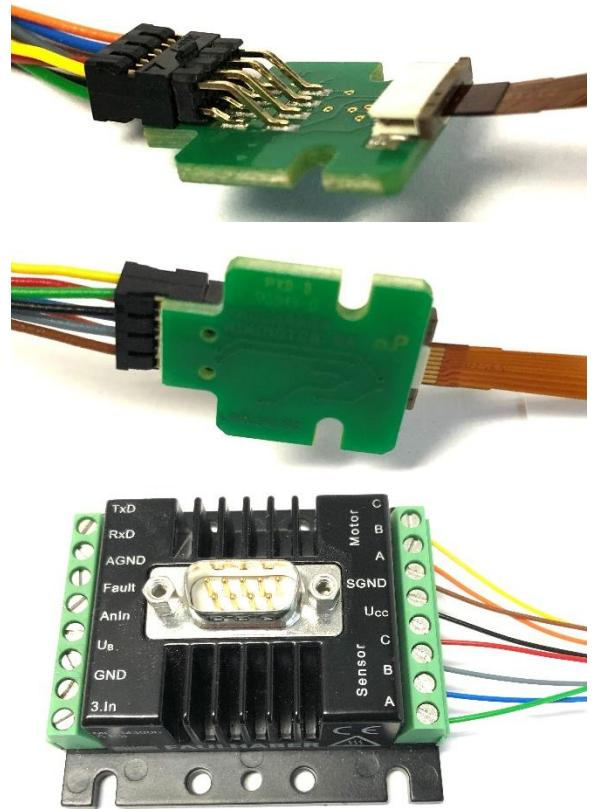

Figure 43 Top to bottom: Flexboard adapter top view, bottom view, and motor controller connections
- Plug the black receptacle on one end of the flexboard adapter cable onto the pins on the adapter board. Make sure the small key on the black receptacle is facing away from the green PCB (compare the colored wire positions in Figure 43 to confirm correct orientation)
- Insert the free ends of the colored wires of the flexboard adapter cable into the screw terminals on the motor controller. It is very important that the correct color wires go into the correct screw terminals on the motor controller. See Figure 43 for the correct order.
- See Figure 43 for the results of this step.